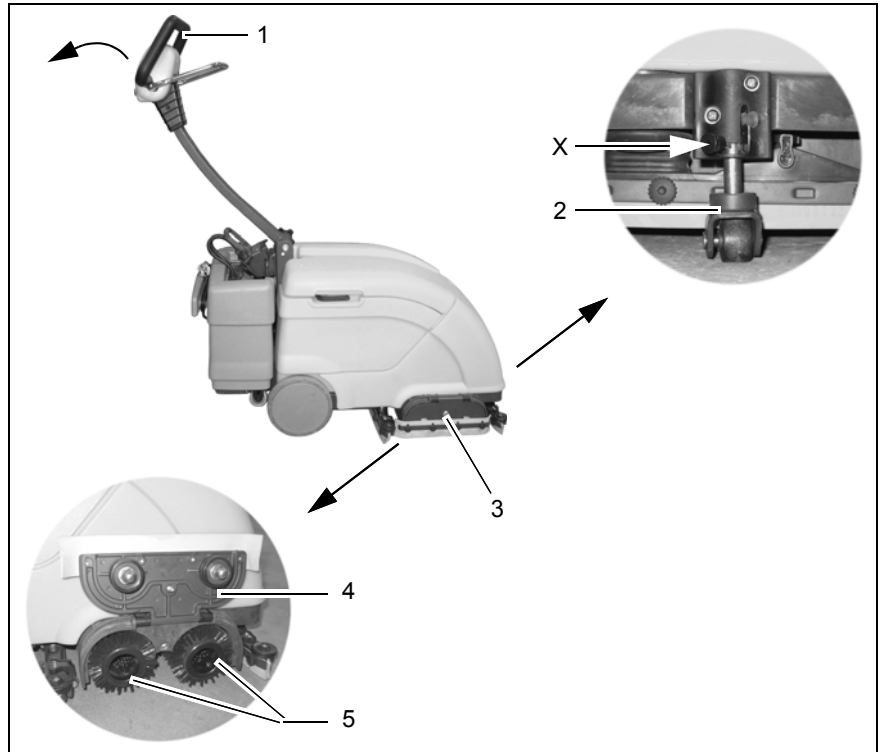

Fig.4
9. Tip the machine a little using the shaft (Fig. 4/1) until the supporting rollers (Fig. 4/2) in can be pushed into parking position (X). Lower the machine onto the supporting rollers.
10. Loosen the slotted-head screw (Fig. 4/3) with a coin and pivot the cover (Fig. 4/4) upwards.
11. Insert the brushes (Fig. 4/5) supplied in the brush head, close the cover and secure it again with the slotted-head screw.